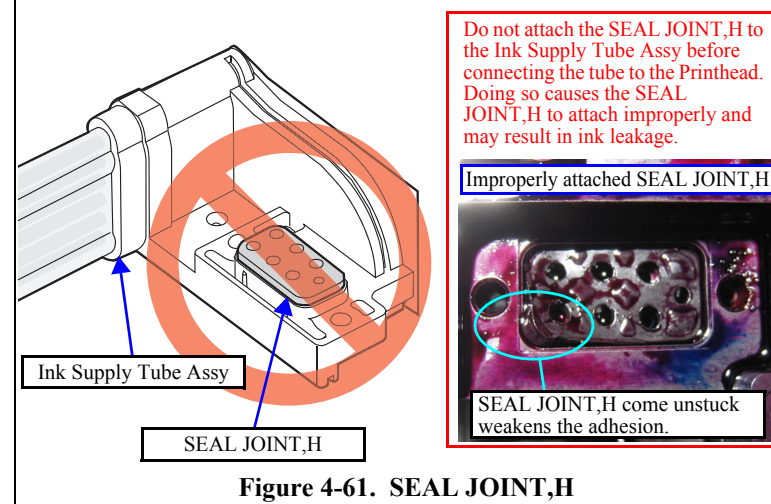

Figure 4-61. SEAL JOINT,H
- If the SEAL JOINT,H shown in Fig. 4-61 is once removed, be sure to replace it with a new one.